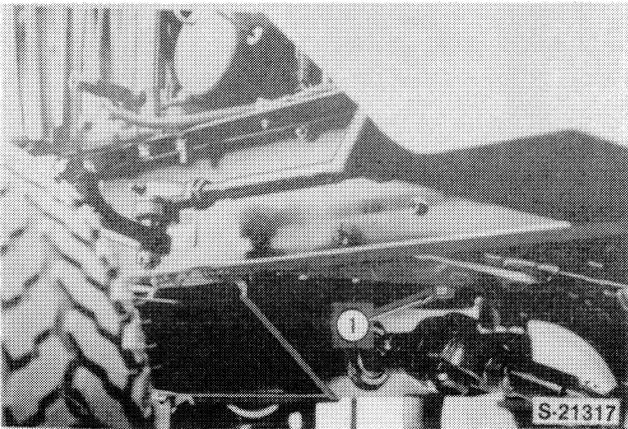

FIGURE 1-6
5. Drain the engine crankcase oil, Figure 1-6.